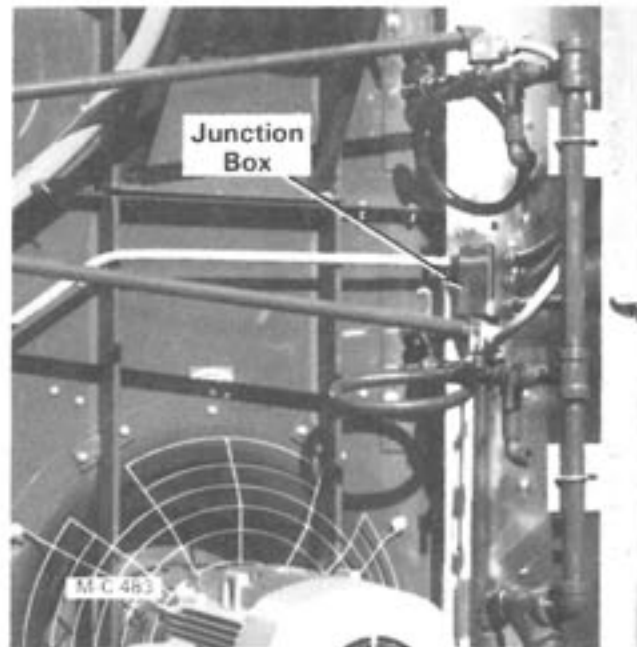

Figure 3
6. Take the cover off of the junction box on the left side of the dryer, see Figure 3. Cut and tape the six (6) wires going to the ratchet solenoids, see Figure 4. Wire codes shown in Figure 4 are imprinted on the wires.